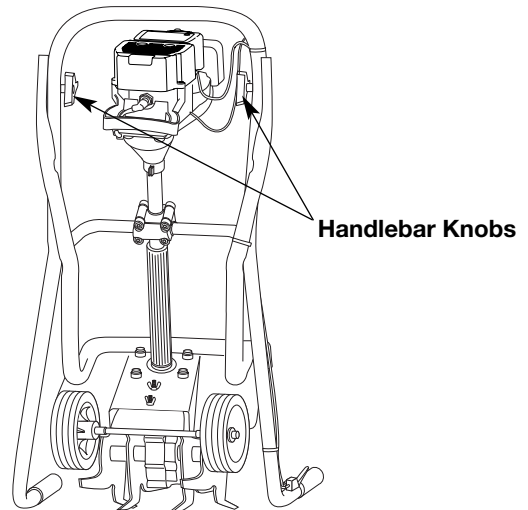

Fig. 19
3. Fold the handlebars down as shown (Fig. 19).